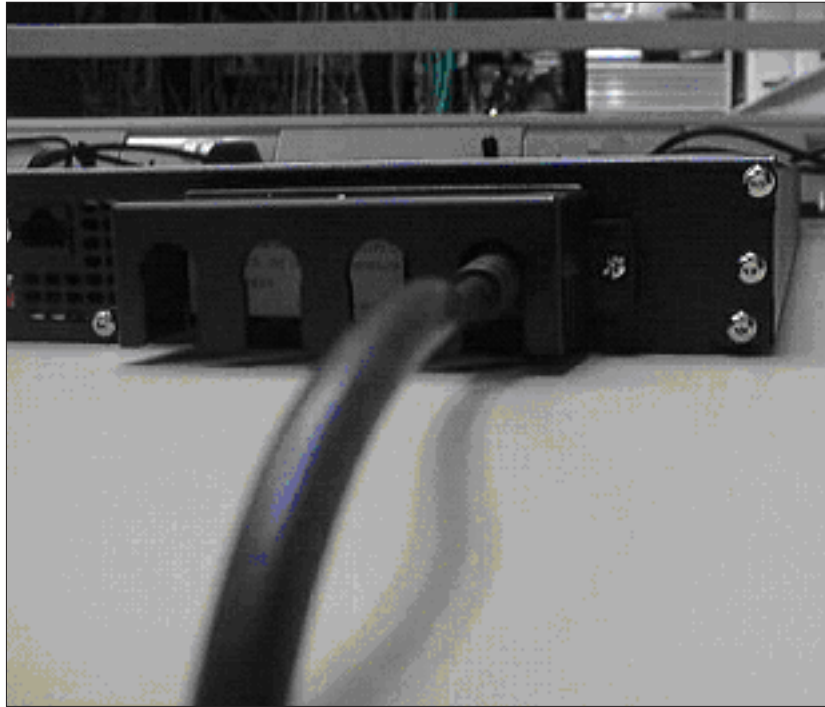

Figure 260. 2145-1U uninterruptible power supply power cable retention bracket
4. Secure the bracket in place with one screw on each side, as shown in Figure 260 on page 591.